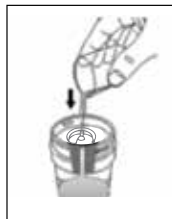

Fig.1
1. Place the compressor unit on a flat, stable surface within operating range of the patient and an electrical outlet. Ensure that the air vents on the side of the unit housing are not blocked or obstructed and that the power is off (O)
3. Attach one end of the air tube to the tube connector at the back of the unit. Turn on (I) the power briefly to ensure that the unit is functioning properly and test that air is coming through the tubing, and then turn the power off (O)
- b. Pour the medication into the nebulizer cup following the physician prescribed dosage, Fig 1.